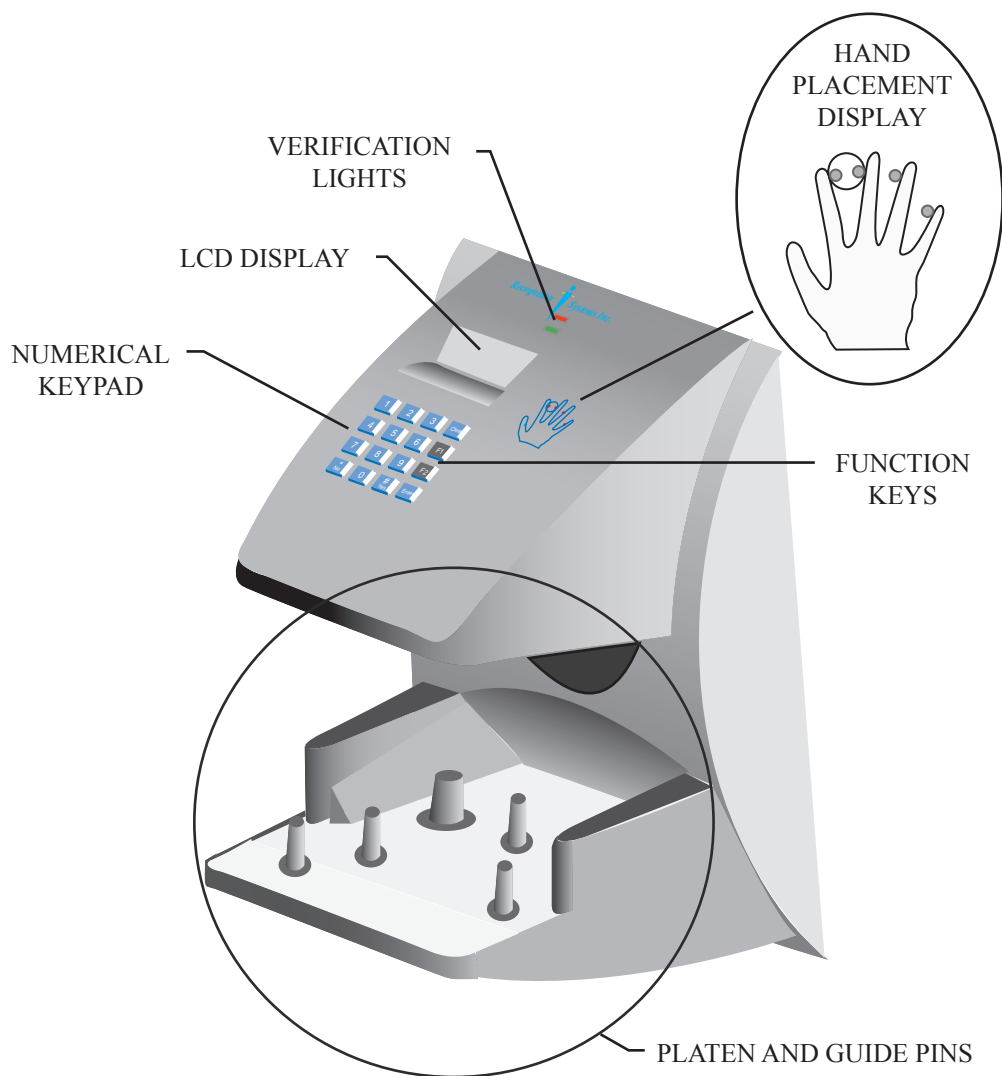

Figure 1-1: The HandKey CR
2. The platen is the flat surface at the base of the HandReader (see Figure 1-1). This is where users place their hands for enrollment and verification. It has guide pins to position the fingers during use.
The HandReader is an intelligent access control system that can operate as a stand-alone unit, in a network with other HandReaders, or in a network with a host computer. Refer to Figure 1-1 when reviewing the information in this section.